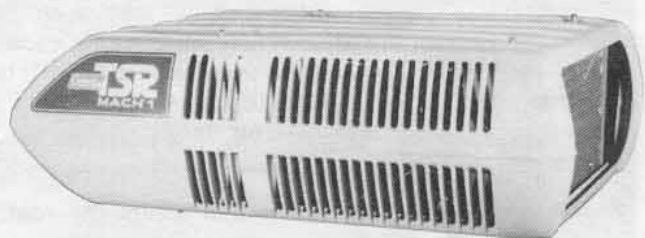

Fig. 12
7. Lift the air conditioning unit off its wooden skid and set directly on the prepared 14" x 14" roof opening with the pointed end of the shroud facing the front of the vehicle and the condensing coil facing the rear. The air conditioning unit may be lifted by its plastic shroud, See Figure 12.